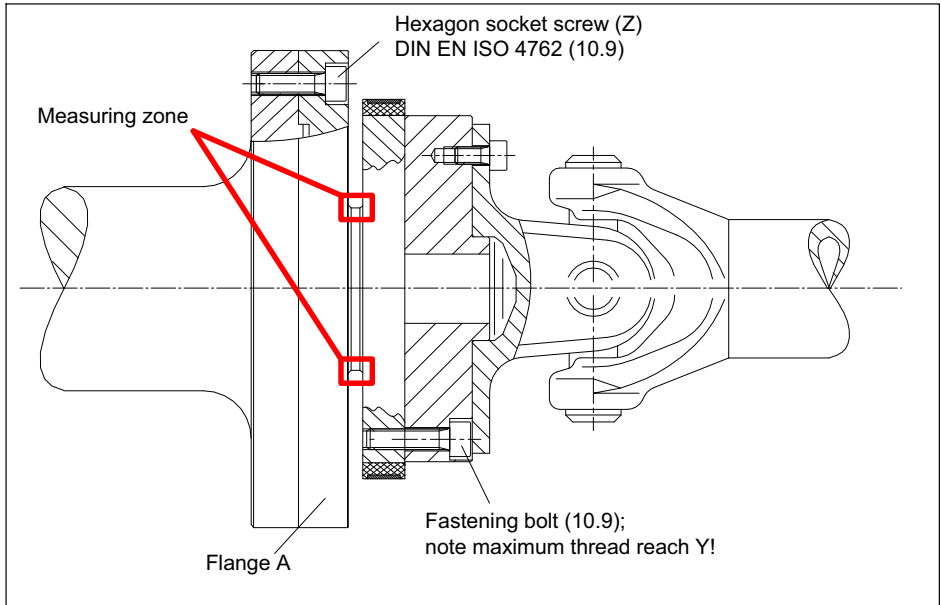

Fig. 5.4 Bolted rotor connection
Make sure during installation that you do not damage the measuring zone marked in Fig. 5.4 by using it to support tools or knocking tools against it when tightening screws, for example. This can damage the transducer and produce measurement errors, or even destroy the transducer.
2. For the connection of flange A (see Fig. 5.4), use DIN EN ISO 4762 property class 10.9 hexagon socket screws of a suitable length (dependent on the connection geometry, see Tab. 5.1 on Page 30).